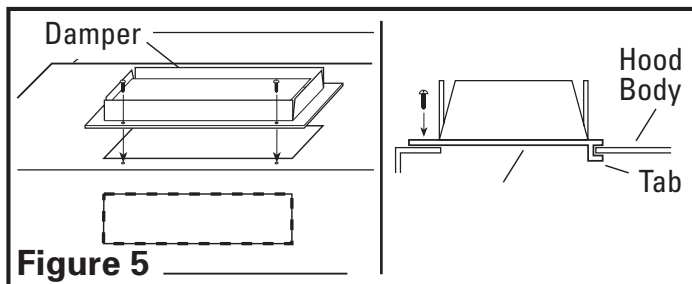

Figure 5
- For 3-1/4" x 10" vertical or horizontal ducting, install the damper assembly to the hood by sliding the tabbed section of the damper under the hood body and securing with the two provided screws (**Figure 5**).